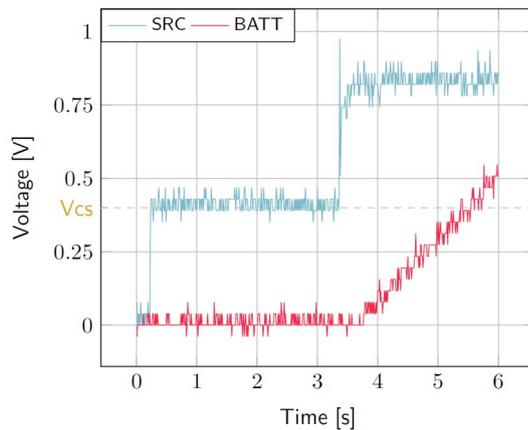

Figure 7: AEM30940 behavior during cold start
- **SRC**: Equal to the cold-start voltage during the cold-start phase. Regulated at the selected MPPT percentage of V_{OC} when cold start is over. (See Figure 7). Be careful that the cold-start phase time will shorten with the input power. Limit it to ease the observation.
- **BATT**: Starts to charge when the cold-start phase is over (see Figure 7).